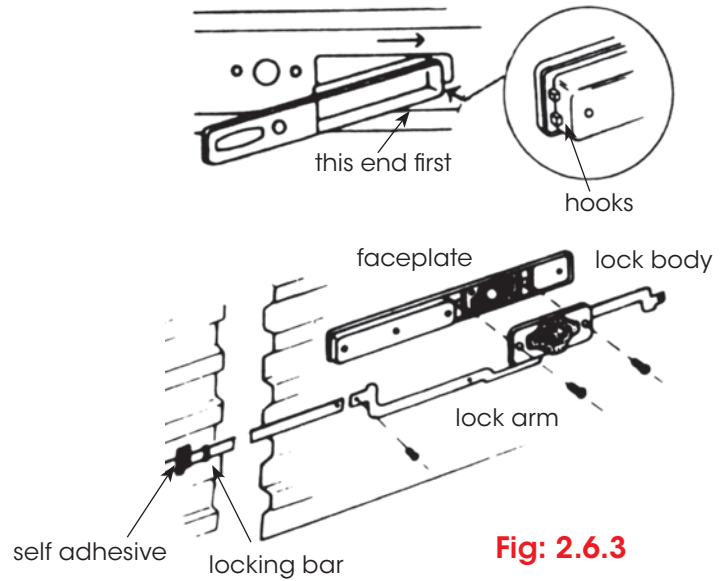

Fig: 2.6.3
- b) Fit faceplate to outside of door. **Fig 2.6.3**. Fit hooks onto curtain edge, then slide faceplate as far to the right as possible. Use adhesive tape to hold in position.